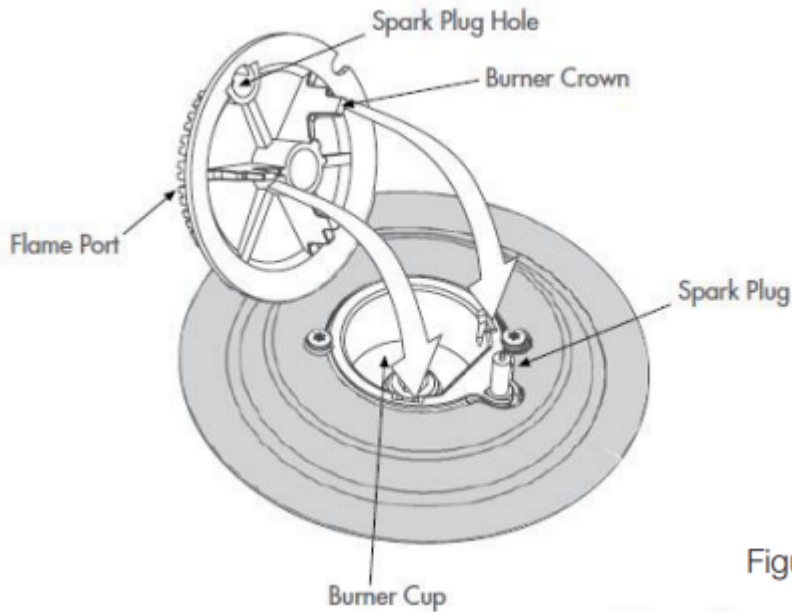

Figure 2
Removing the burner parts (Refer Figure 2)
- To do this, ensure that the 2 ribs on either side of the spark plug hole are positioned into the 2 slots on the burner cup. (See figure 2).
- Open the lever A completely on the left and right hinges (fig. 2)
- Gently close the door (fig. 3) until left and right hinge levers A (fig. 2) are hooked to part B (fig. 2) of the door
- Triple Glazed oven door: Remove the top frame (G) by unscrewing the 2 screws, located on the left and right sides
- Gently pull out the inner pane of glass (fig. 2). Also remove the centre pane of door glass, not shown here.